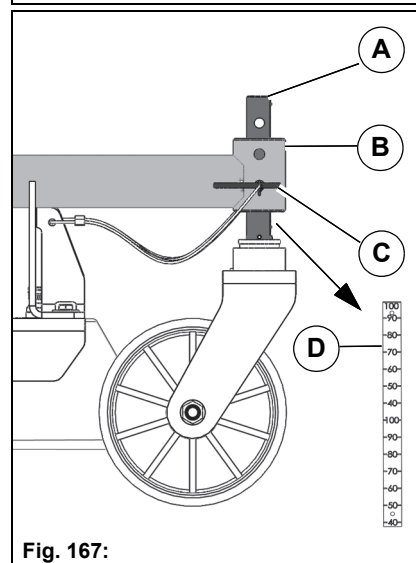

Fig. 167:
2. Pull the mounting bolt **Fig. 167-C** out and push the bolt **Fig. 167-A** of the wheel fork into the bush **Fig. 167-B** of the wheel spar until the wanted cutting height is set. You can adjust the cutting height centimetre by centimetre with the two mounting holes in the bush.
3. You can read off the cutting height on the scale **Fig. 167-D**.